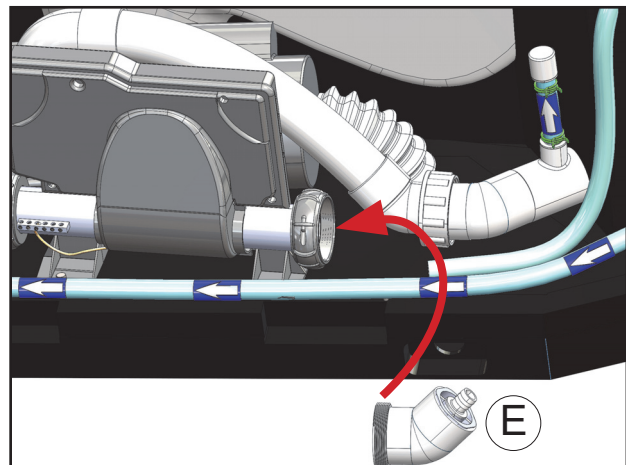

Figure 8.1
1. Locate Heater Outlet Assembly (E) that comes in kit.
2. Connect Heater Outlet Assembly (E) to right side for of heater as shown in (Figure 8.1) and secure with heater split nut.